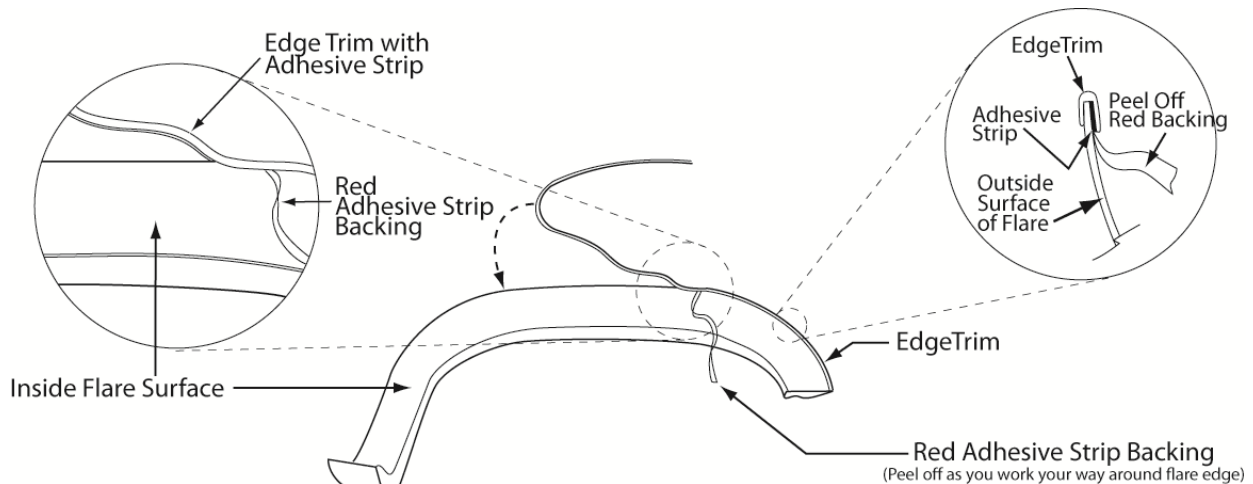

Figure 1
2. Press edge trim into place along edge of flare in one-foot increments, pulling red backing free as you continue to work your way around the flare. (Figure 1)